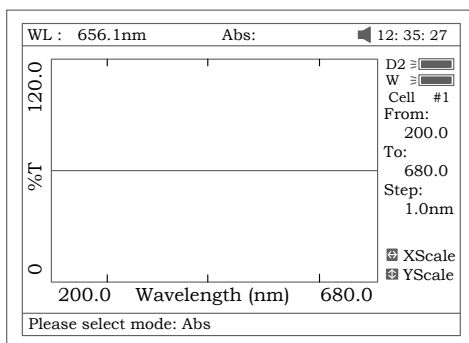

Fig 43
2. Press **【F2】** to select the test mode, “Abs”, “%T” or “E” (Fig 43).